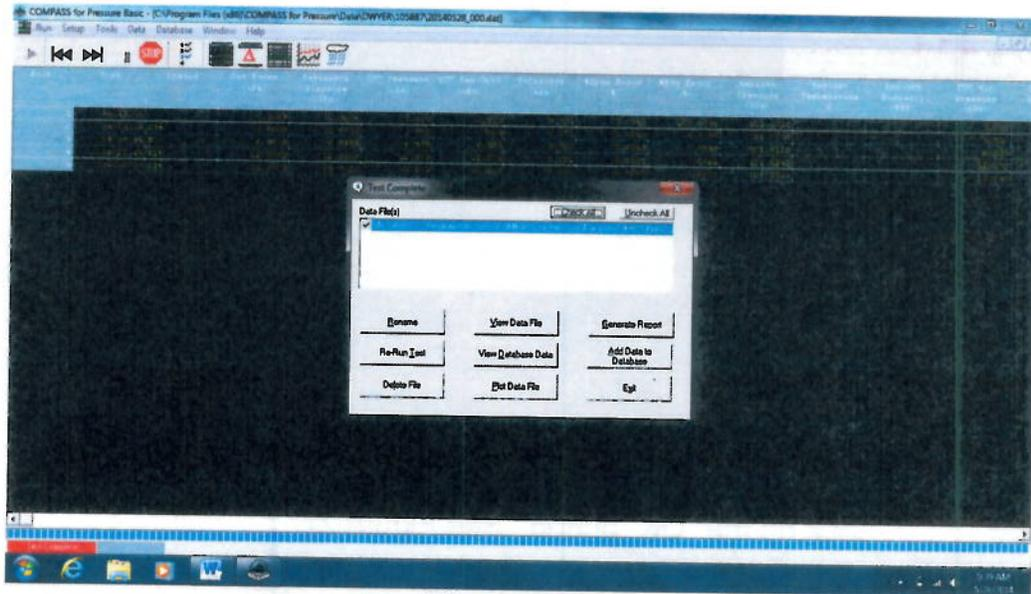

Figure 28
- 11.28 After the last point is entered, the following window will appear: Click on the “Generate Report” button. See Figure 28.